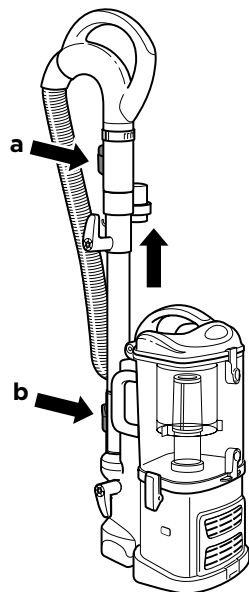

Fig. 14
- 2 Press the handle release button **(a)** and pull the handle up or press the extension wand release button **(b)** and pull the extension wand up. **(Fig. 14)**